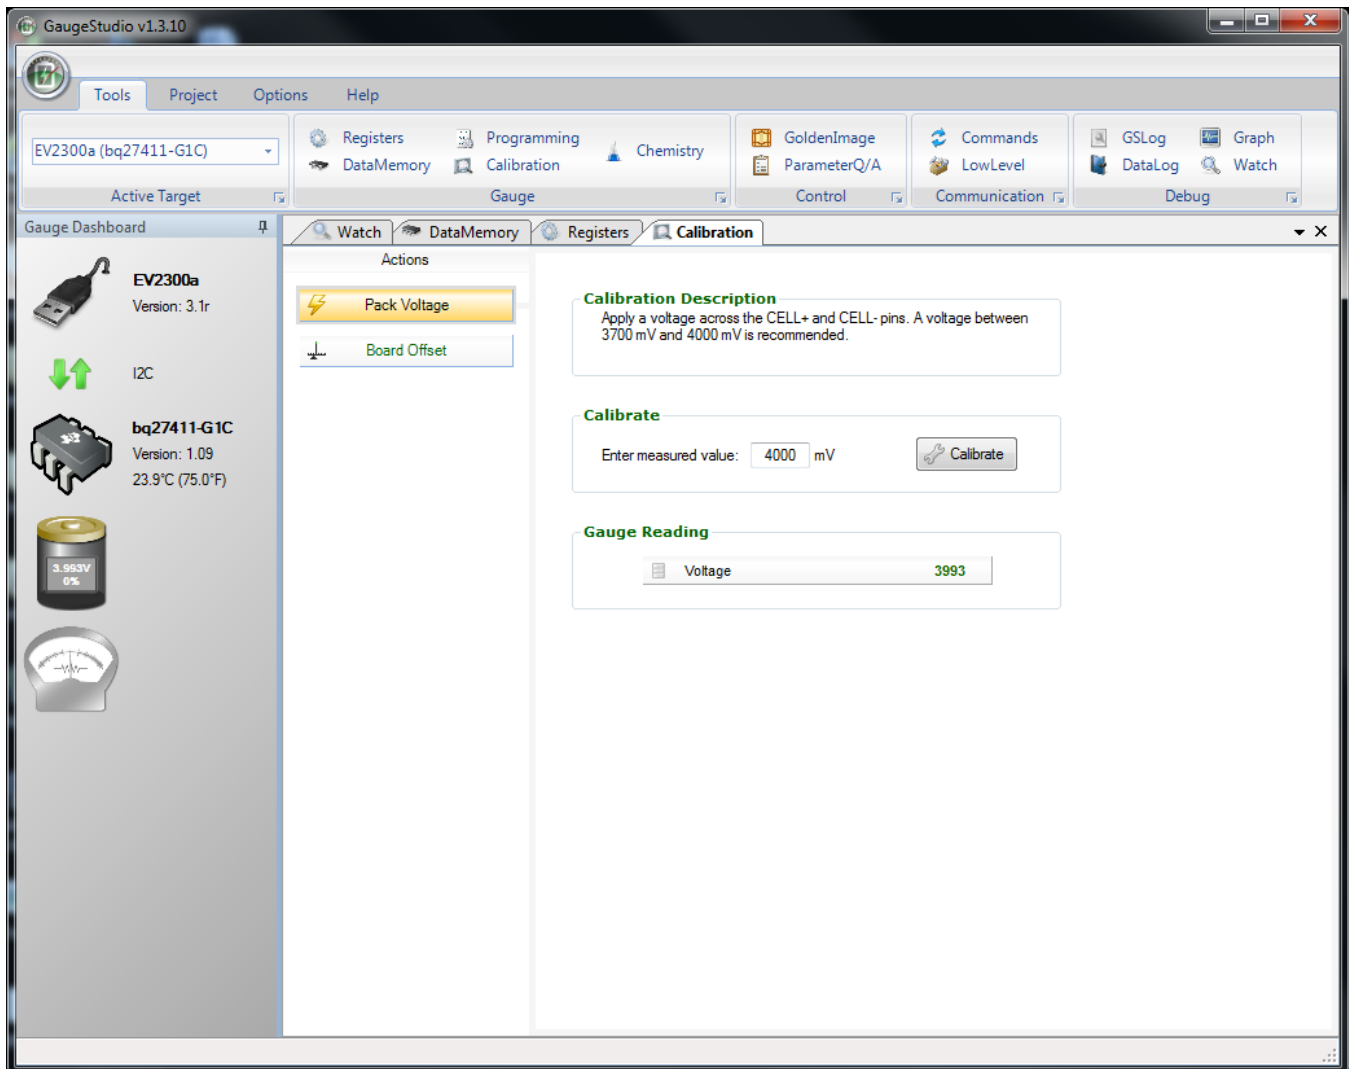

Figure 8. Calibration Screen
1. Select the types of calibration to be performed (see Figure 8).